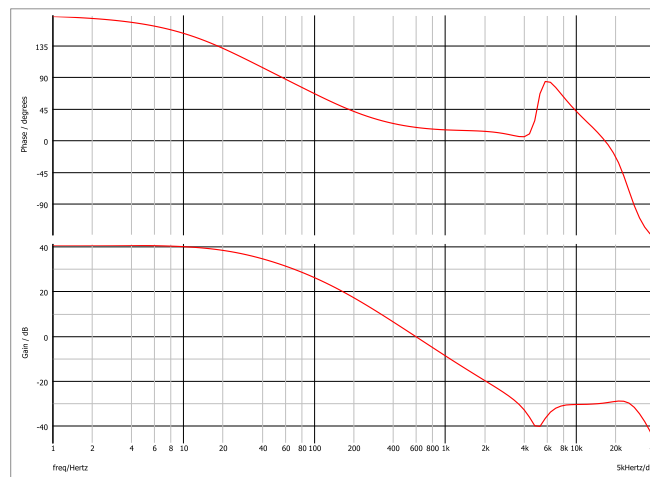

Figure 16: Gain and Phase of AC Analysis
4. Click the “Run” button or click “Ok” to save the data. Press F9 to run the simulation. The waveform viewer window opens with the converter’s frequency response (see Figure 16).